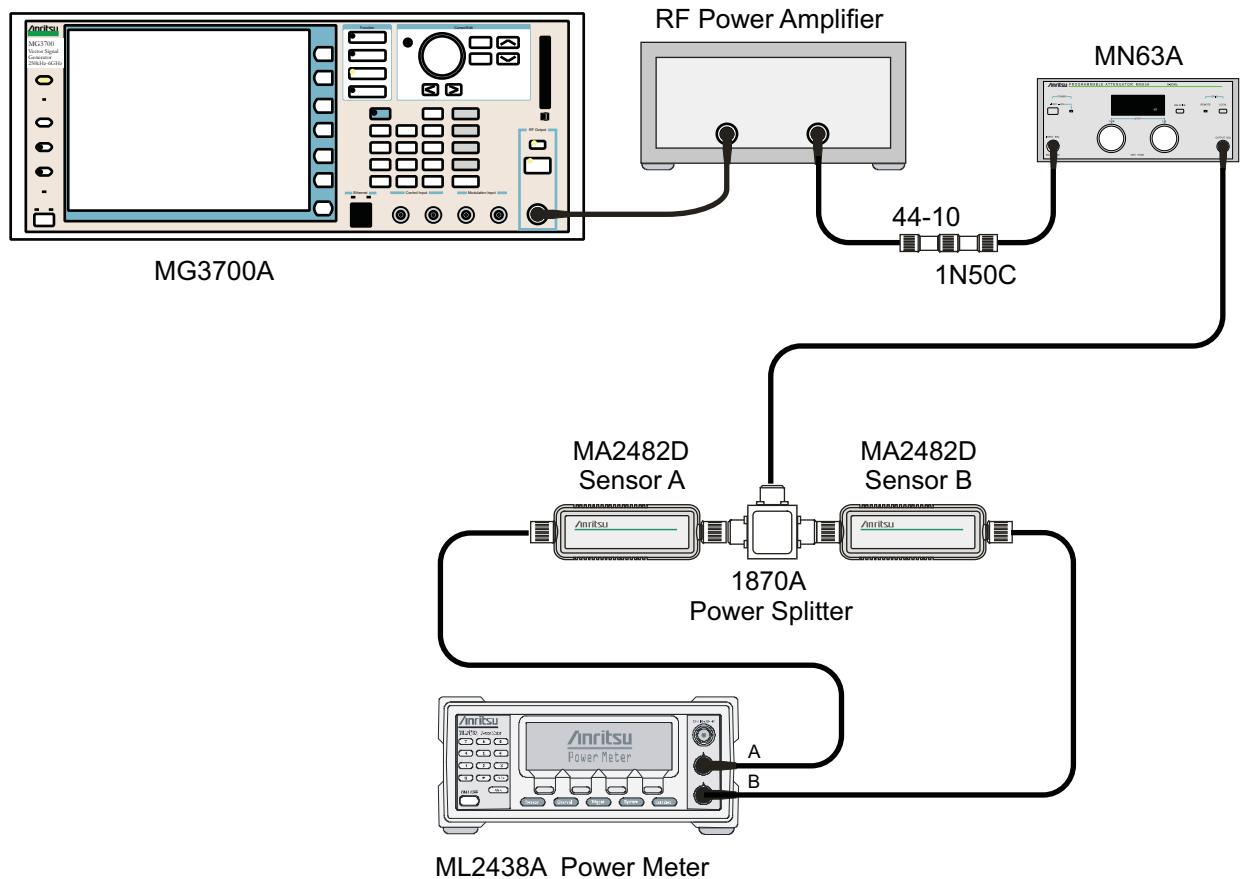

Figure 4-2. ISDB-T Level Accuracy and 1 dB Compression Level Pre-test Setup
3. Connect the MG3700A Signal Generator, Power Amplifier with N(f)-BNC(m) adapters, RF Limiter, MN63A Programmable Attenuator, Power Divider, Power Meter, and Power Sensors as shown in Figure 4-2.
42. Turn **Off** the power amplifier, disconnect the power splitter from the MS271xE, and re-connect Sensor A to the power splitter as shown in Figure 4-2 on page 4-9.
4. Connect the MG3700A Signal Generator, Power Amplifier with N(f)-BNC(m) adapters, RF Limiter, MN63A Programmable Attenuator, Power Divider, Power Meter, and Power Sensors as shown in Figure 4-2 on page 4-9.